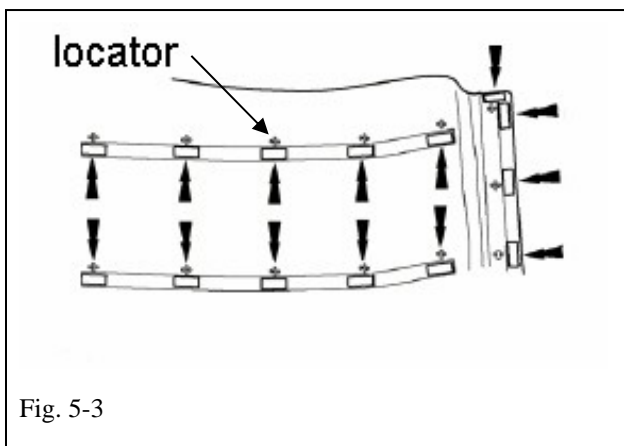

Fig. 5-3
- (b) Attach 1" X 2" fasteners to the back sides of the bed liner sidewalls as marked by locators. **Do not remove adhesive protective film at this time.** (Fig 5-3)